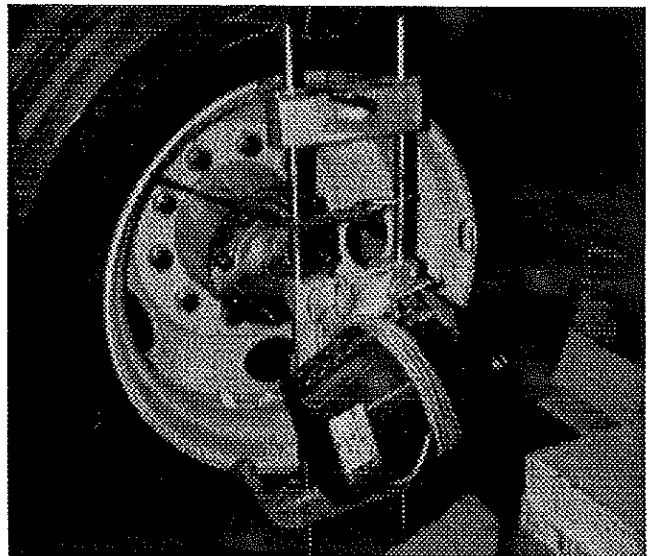

FIG. 1 - Optical toe and tracking system installation
3. Using an optical toe & tracking system installed on each side of drive axle, fix and position the projector in center of wheel. Measure the distance on each side of projector mounting rods; distance should be equal on both sides. If not, loosen wing nut, adjust projector to the proper distance, then tighten wing nut. Refer to figure 1.
4. Using an optical toe & tracking system installed on each side of tag axle, fix and position the projector in center of wheel. Measure the distance on each side of projector mounting rods; distance should be equal on both sides. If not, loosen wing nut, adjust projector to the proper distance, then tighten wing nut. Refer to previous figure 1.